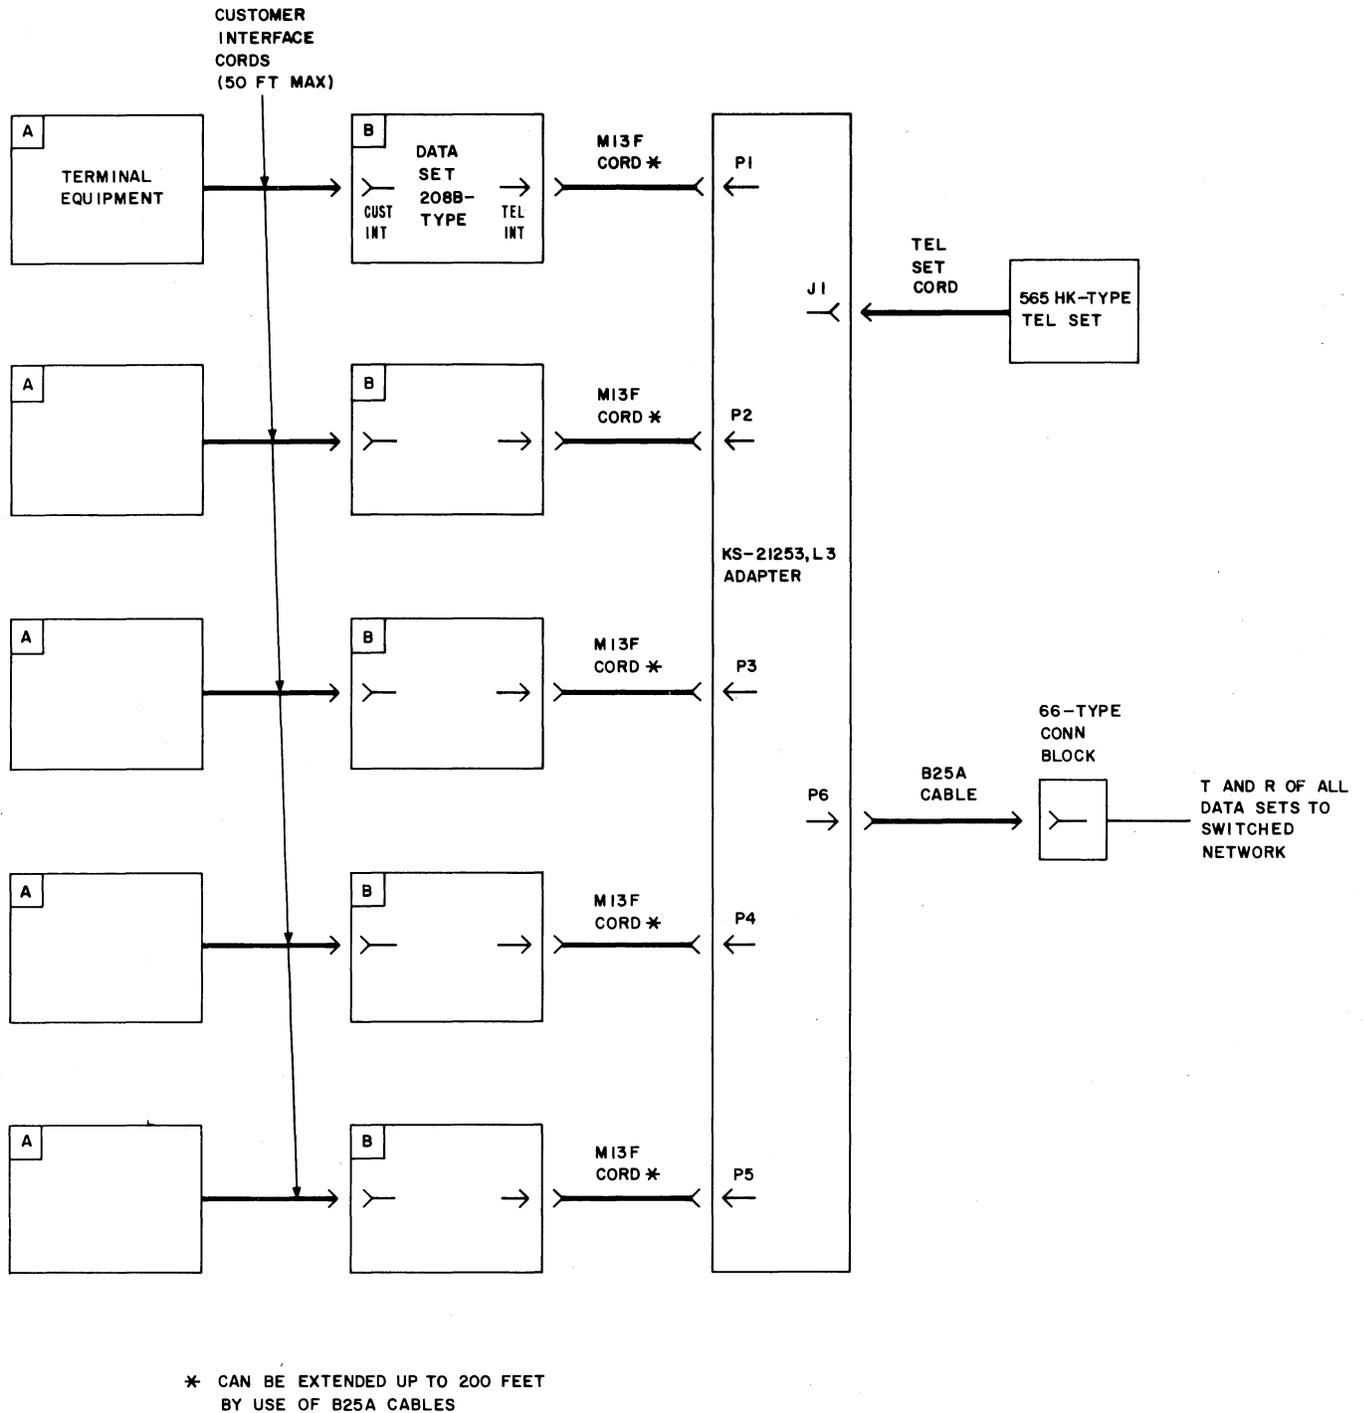

Fig. 17—Typical Multiple Data Set 208B-Type Arrangement Without ACUs—Block Diagram
**B. Multiple Data Set Arrangement (Fig. 17, 18, and 19)**
**4.07** A typical multiple DS 208B-type arrangement without ACU(s) is shown in Fig. 17. The KS-21253-L3 adapter, 66-type connecting block, and the B25A cable associated with the connecting block must all be ordered separately. If desired, the telephone set and KS-21253-L3 adapter may be located up to 200 feet from the data sets by using B25A cables to extend the M13F cords.